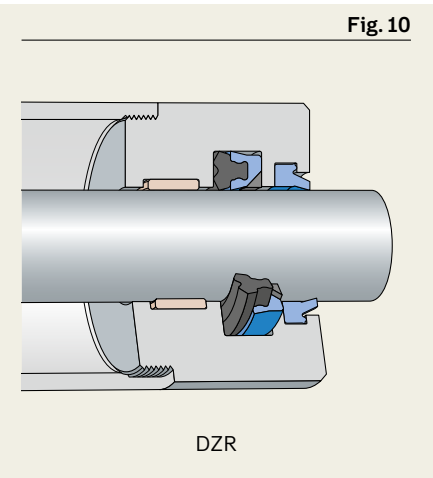

Fig. 10
DZR (→ fig. 10, page 77) profile rod seals and RBB (→ fig. 11, page 78) profile buffer seals incorporate an anti-extrusion ring. Other U-cup and energized U-cup rod seals with an integrated anti-extrusion ring are available on request. For seals without an integrated anti-extrusion ring, SKF provides full-face anti-extrusion rings on request. For additional information, contact SKF.
DZR profiles (→ fig. 10) combine an NBR primary sealing ring, a LUBRITHANE (TPU) secondary sealing ring and a triangular polyamide (PA) anti-extrusion ring (→ Anti-extrusion rings, page 75) into one seal. These combinations provide good low temperature resilience, and improved resistance to deformation, wear, and gap extrusion. They are suitable for extreme pressures up to 690 bar (10 000 psi) in heavy duty applications. DZR profiles are available in metric and inch sizes.